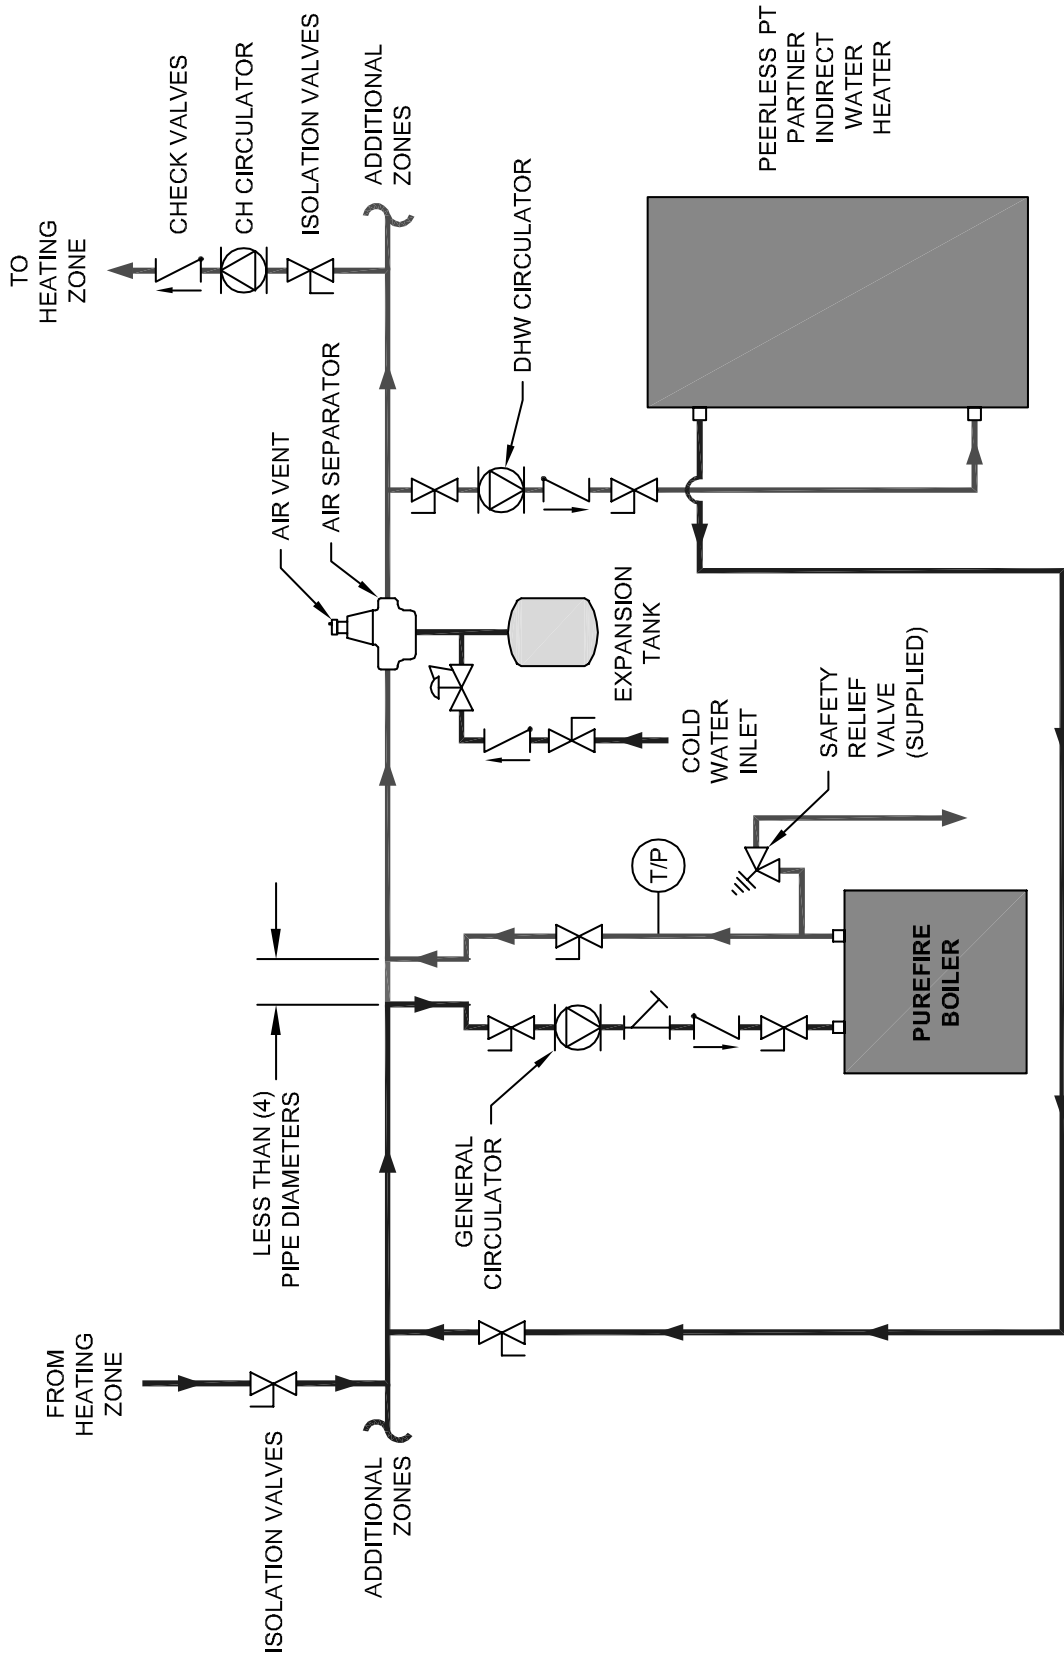

Figure 4.4: Recommended Piping – One Boiler, Primary/Secondary with Two Zones (Zone Circulator)
1. Figure 4.4 shows a single boiler with multiple heating zones. In this case, the DHW zone is piped in parallel to the heating zones on the primary loop.